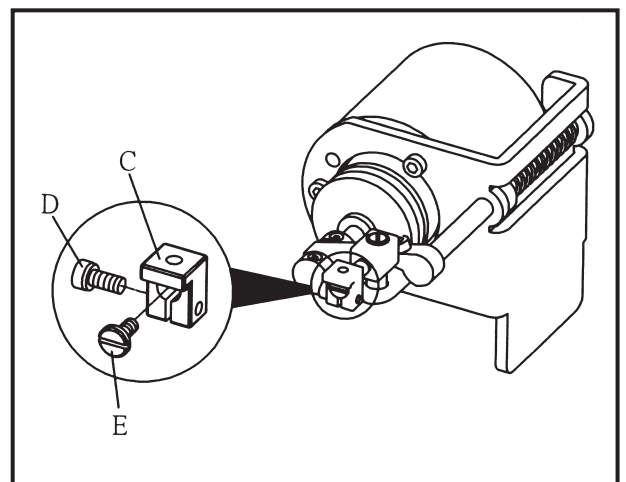

Fig.45
When you would like to adjust the right & left position of Moving knife First, please loose the screw (D) of connecting Block (C) , to turn the screw (E) by screwdriver for micro adjusting the correct right & left position of Moving Knife., then to locked the screw (D) down. (Fig.45)